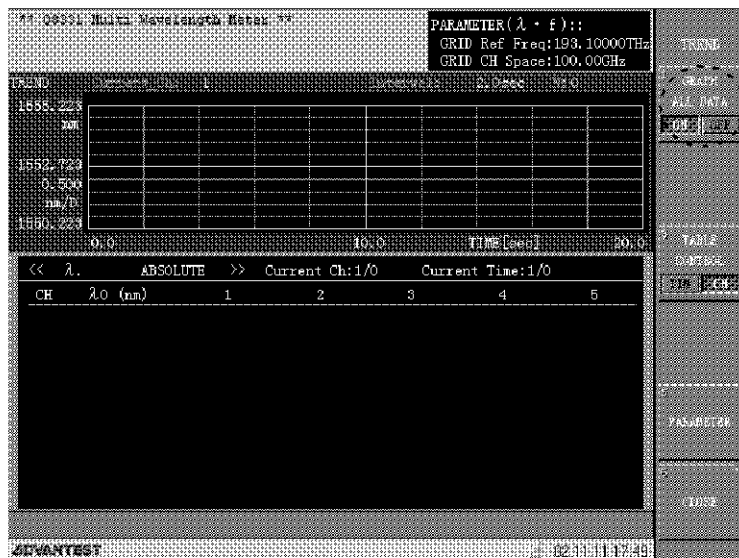

Figure 2-51 TREND Measurement Screen (GRAPH ALL DATA ON)
- Graph and list display (see Figure 2-51)